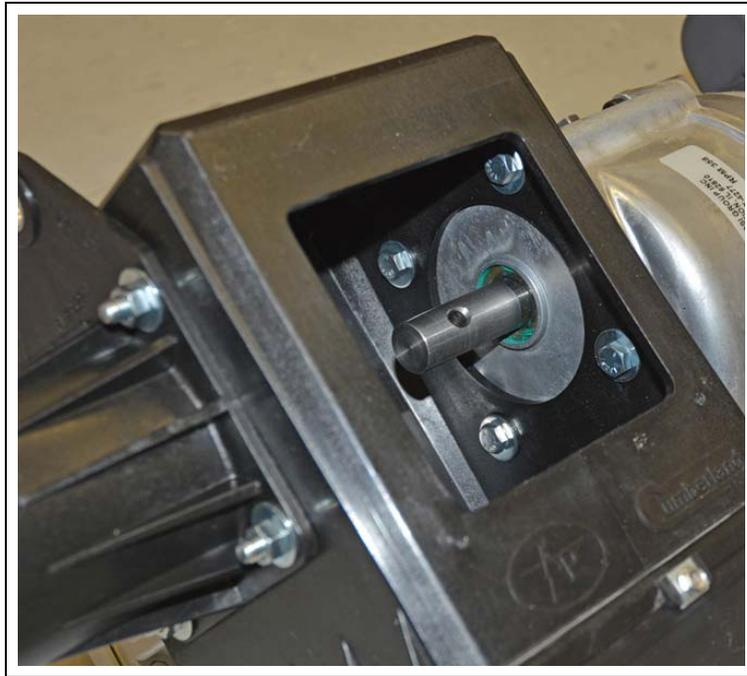

Figure 5Y Assembly of the Control Unit to the Drive Unit
3. Mount the control unit to the gearbox unit with four (4) 5/16" x 3/4" bolts and four (4) flat washers, which are supplied with the power unit. (See Figure 5Y on Page 33.)